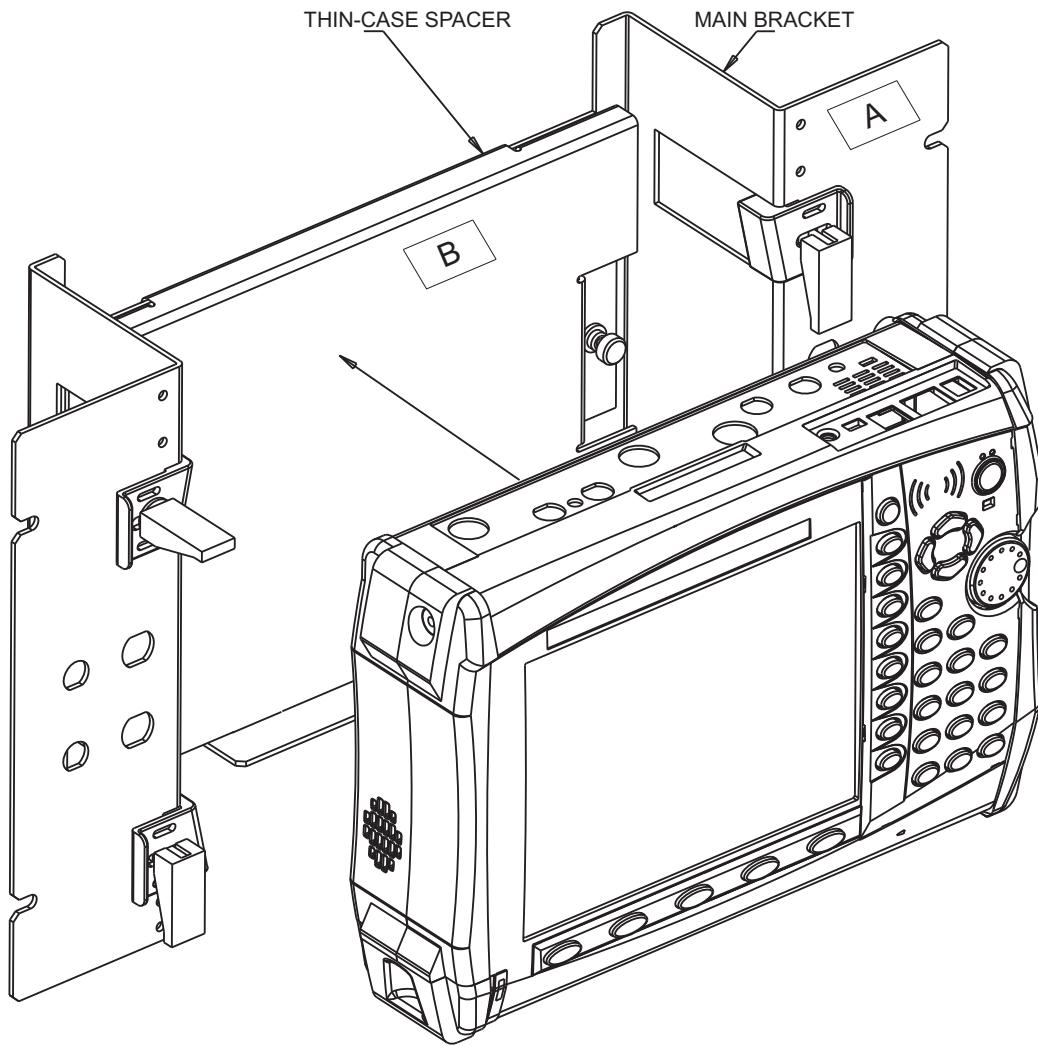

Figure 1-4. Thin-Case Rack Mount with Instrument
3. Loosen the 2 thumb screws that hold Thin-Case Spacer (B) (refer to Figure 1-4 on page 1-6) to Main Bracket (A).
4. Slide up Thin-Case Spacer (B), remove, and save for future use.
4. Ensure the tightness of the thumb screws that hold Thin-Case Spacer (B) to Main Bracket (A). Refer to Figure 1-4.
7. Mount additional connectors (if needed) in the holes provided in Main Bracket (A).
8. Put instrument into Main Bracket (A), pushing the back against Thin-Case Spacer (B) and resting the instrument on the ledge of Main Bracket (A). Note that the ledge is centered at the bottom of the main bracket. This ledge provides additional instrument support should the instrument and mounting assembly be subject to severe forces.
9. Position the 4 plastic latching brackets onto the case of the instrument. Push upward on the plastic of each latching bracket from the back side of the Main Bracket (A) in order to slide the latching bracket over the instrument bumper.
11. Mount Main Bracket (A) and attached instrument onto 19-inch rack.